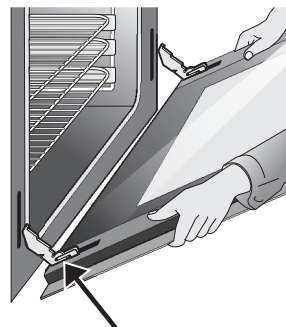

Figure 40: Holding door for removal
4. Keep pulling the bottom of the door toward you while rotating the top of the door toward the appliance to completely disengage the hinge levers (Figure 40).
1. Firmly grasp both sides of oven door along the door sides. Do not use the oven door handle (Figure 40).
2. Holding the oven door at the same angle as the removal position, seat the hook of the hinge arm over the roller pins located on each side of the oven door frame (Figure 40). The hook of the hinge arms must be fully seated onto the roller pins.